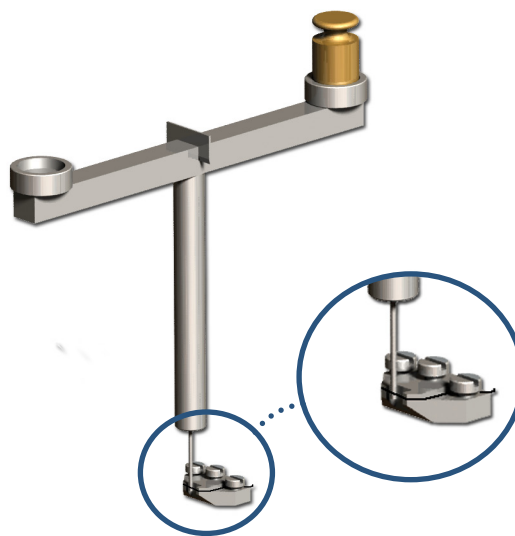

Figure 4.6 Illustration of how to fit the balance between the wire and the gap in the support
4. Make sure that the tip of the transducer arm on the balance is placed in the gap between the wire and the jaw as illustrated in figure 4.6 on next page. Carefully move the calibration bridge until the tip of the transducer arm is placed freely in the gap, which means it does not touch either the wire or the jaw.
7. Carefully place the 2 g weight on the pan as illustrated in figure 4.6 on next page. The force applied on the force transducer should mimic the stretch created by the contraction of a mounted ring preparation. Wait until the relative force reading is stable. Press F3 to finish the calibration.